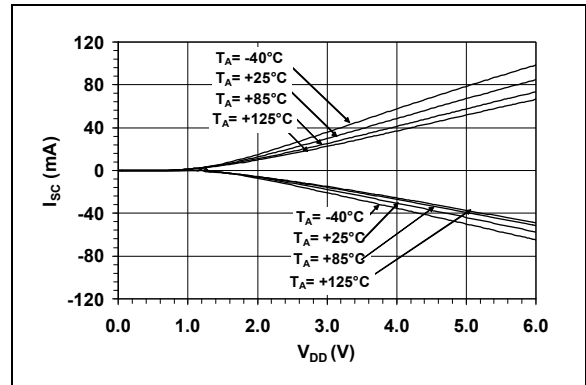

FIGURE 2-30: Short Circuit Current vs. Supply Voltage vs. Temperature.
- Note 4:** The pull up voltage for the open drain output V_{PULL_UP} can be as high as the absolute maximum rating of 10.5V. In this case, I_{OH_leak} can be higher than 1 μA (see Figure 2-30).